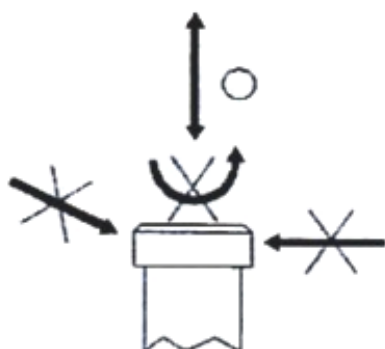

Fig. 3
- 3) Rotate the SENSING HEAD is prohibited. Some certain angles between SENSING HEAD & measuring object are not allowed (ref. Fig. 3).